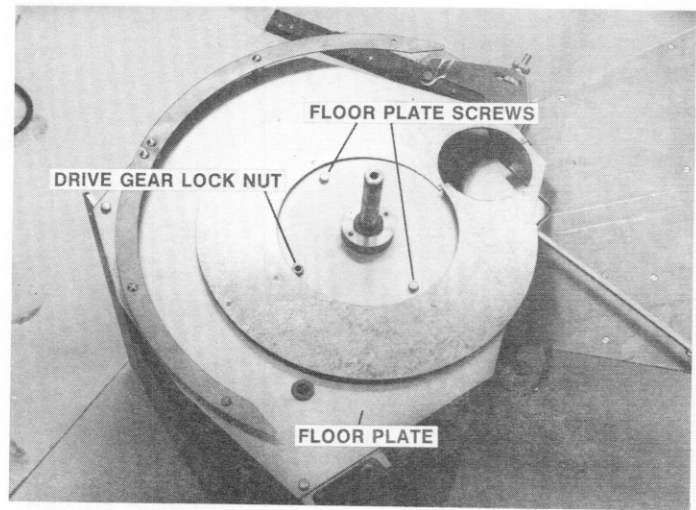

Figure 21 — Floor Plate Screws, Magazine Drive Gear Shaft Lock Nut and Floor Plate
- D. Remove the four floor plate screws holding magazine floor plate to magazine gearbox (see Figure 21). The magazine drive gear shaft lock nut must be removed; however, the magazine drive gear shaft, which is held by this nut, must be held from below when floor plate is removed to prevent magazine drive gear from moving. If magazine drive gear moves without first being match marked with magazine gear, incorrect timing will result.